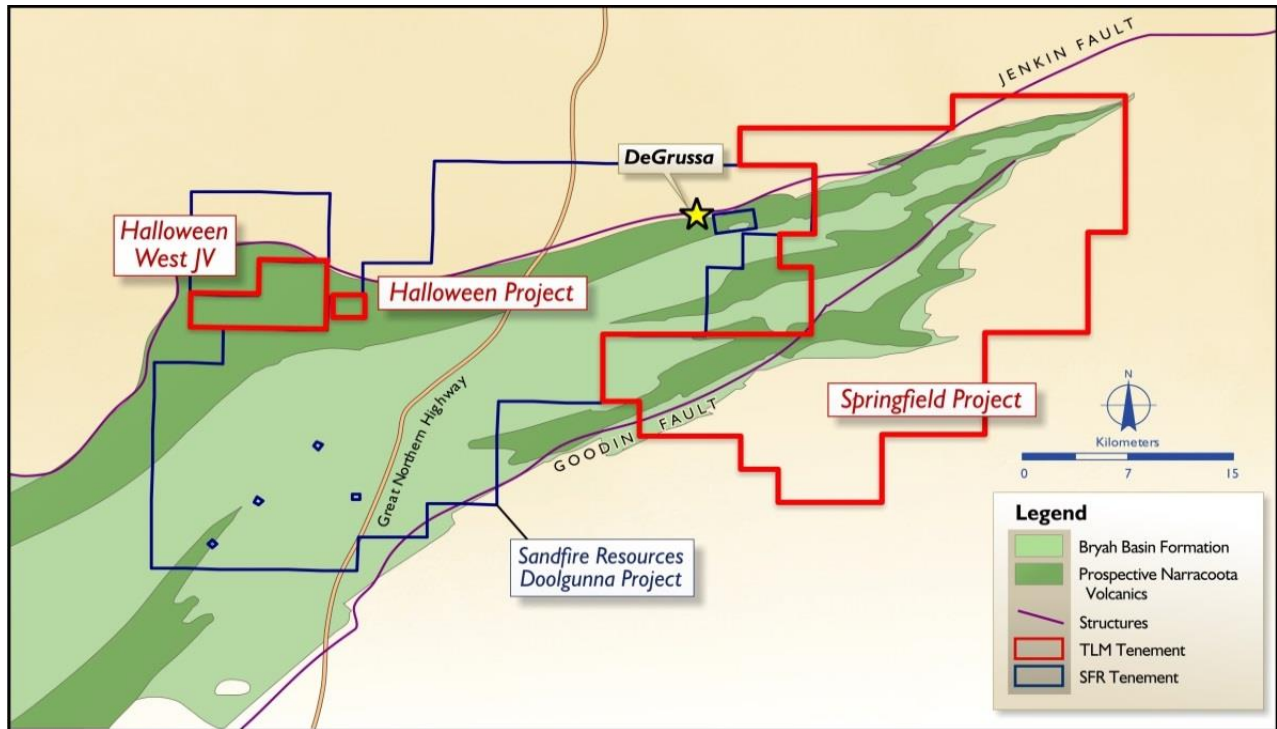

Figure 1: Talisman’s Doolgunna Copper-Gold Projects subject to the \$15M Exploration Farm-In Joint Venture with Sandfire Resources NL
Talisman Mining Limited (ASX: TLM “Talisman”) is pleased to announce that Sandfire Resources NL (ASX: SFR; “Sandfire”) has advised that it has received assay results from Reverse Circulation (RC) drill hole TLRC0004 at the Monty Prospect within Talisman’s Springfield Project located approximately 10km east of the DeGrussa Copper Mine (see *Figures 1 and 2*).